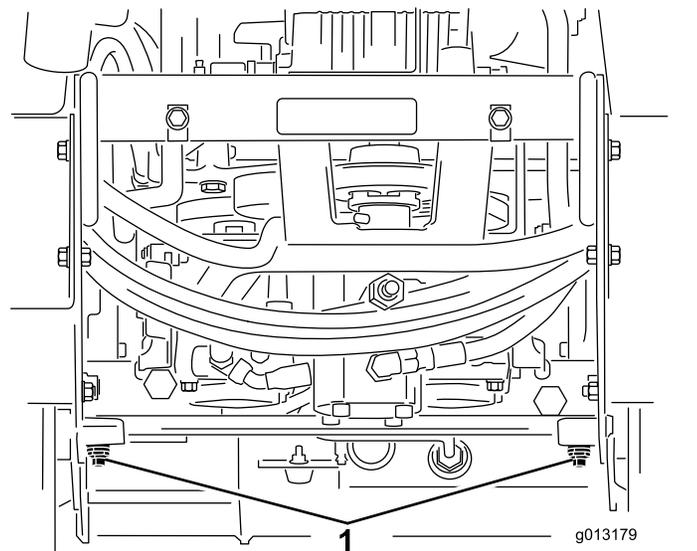

Figure 20
- Using a wrench, turn the tow valves on the hydraulic pumps twice counter-clockwise (Figure 20).